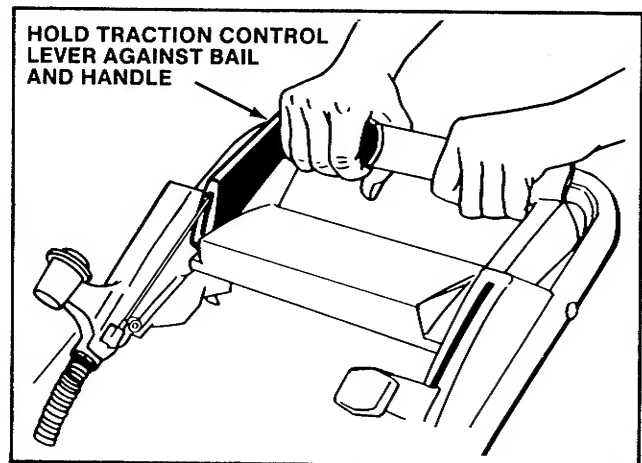

FIGURE 10
TRACTION CONTROL OF POWER-PROPELLED MODELS (See Figure 10)
7. If equipped, engage the traction drive by holding the traction control lever against the bail and handle. (See Fig. 10.)